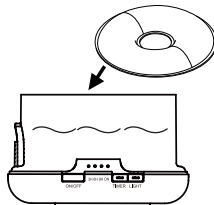

Fig 5
5. Wipe dry the water tank using a paper towel. Place the water cover (doughnut shape) over the surface of the water and close the unit with the upper cover. (Fig 5)